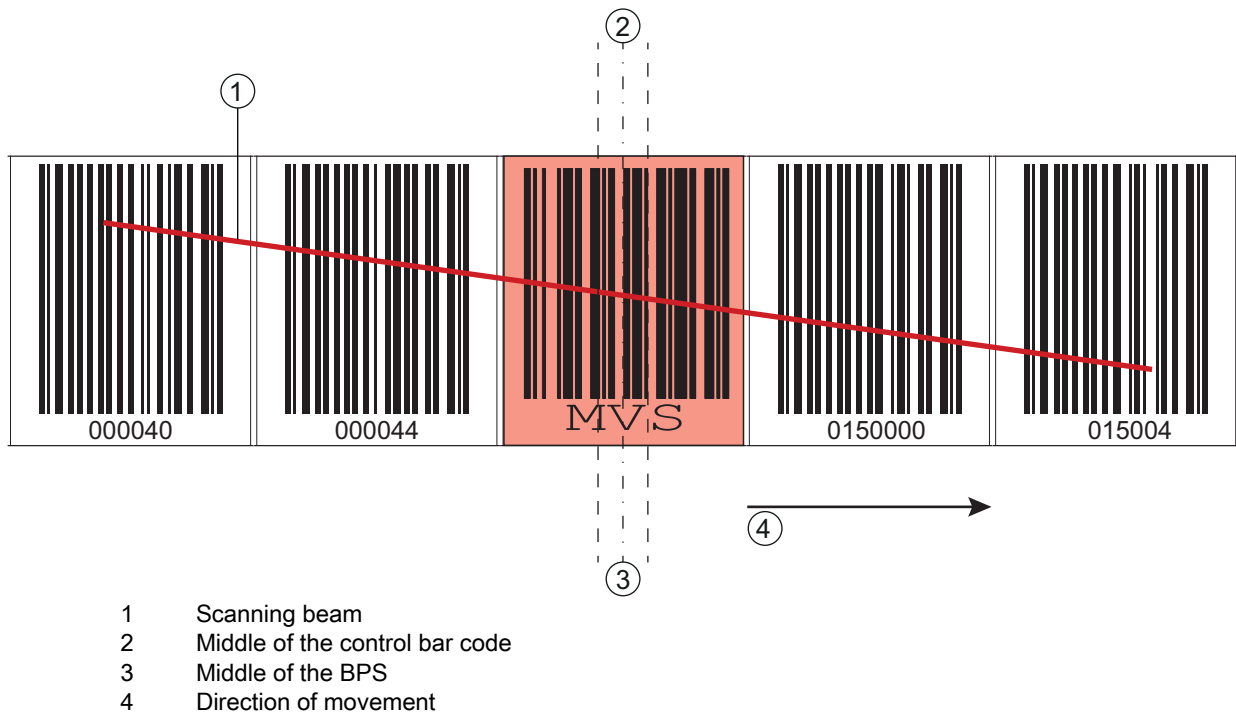

Figure 3.13: Changeover position with *MVS* control bar code for BCB changeover
- If the center of the BPS reaches the transition point of the control bar code, the device switches to the second BCB, provided the next position label is in the BPS's scanning beam (see figure 3.13). The output position value is thereby always uniquely assigned to one BCB.